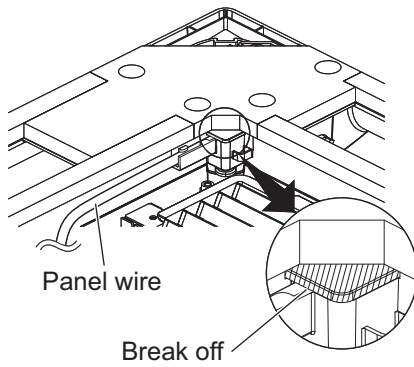

Fig. 8-32
As the receiver can only be installed in the corner where the panel wire comes out, as shown in Fig. 8-32, consideration should be given to orientation when fitting the panel to the indoor unit.
1. Twist off the circled area shown in Fig. 8-32 with pliers or similar.